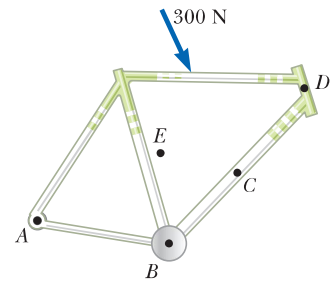

Figure OQ12.7
- Assume a single 300-N force is exerted on a bicycle frame as shown in Figure OQ12.7. Consider the torque produced by this force about axes perpendicular to the plane of the paper and through each of the points